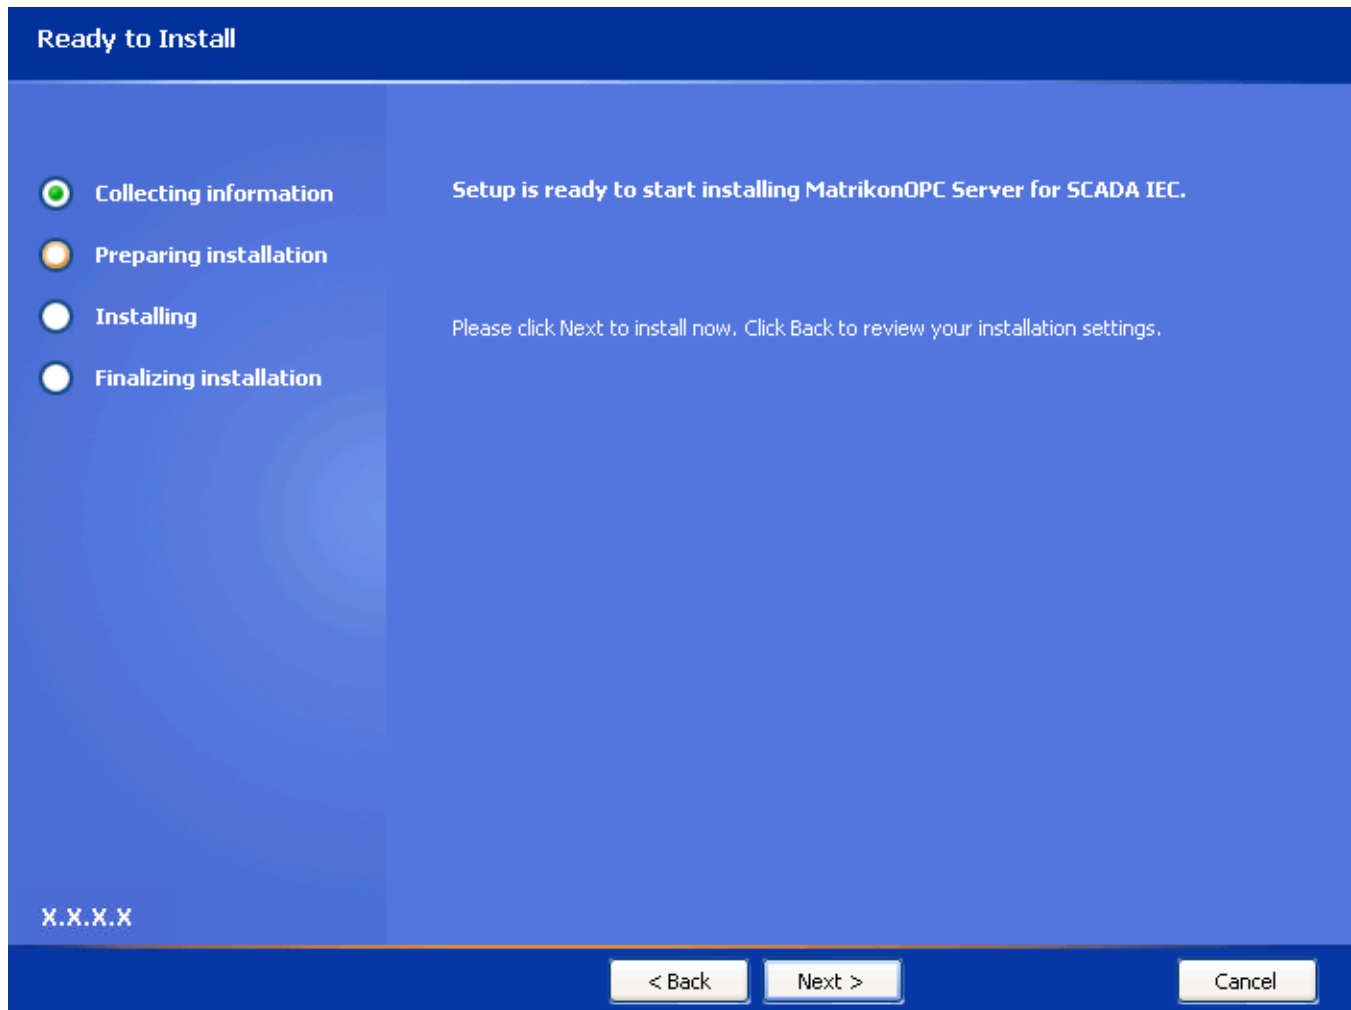

Figure 8 - Ready to Install Screen
15. Click on the **Next** button to accept the default password. The **Ready to Install** screen (Figure 8) appears.